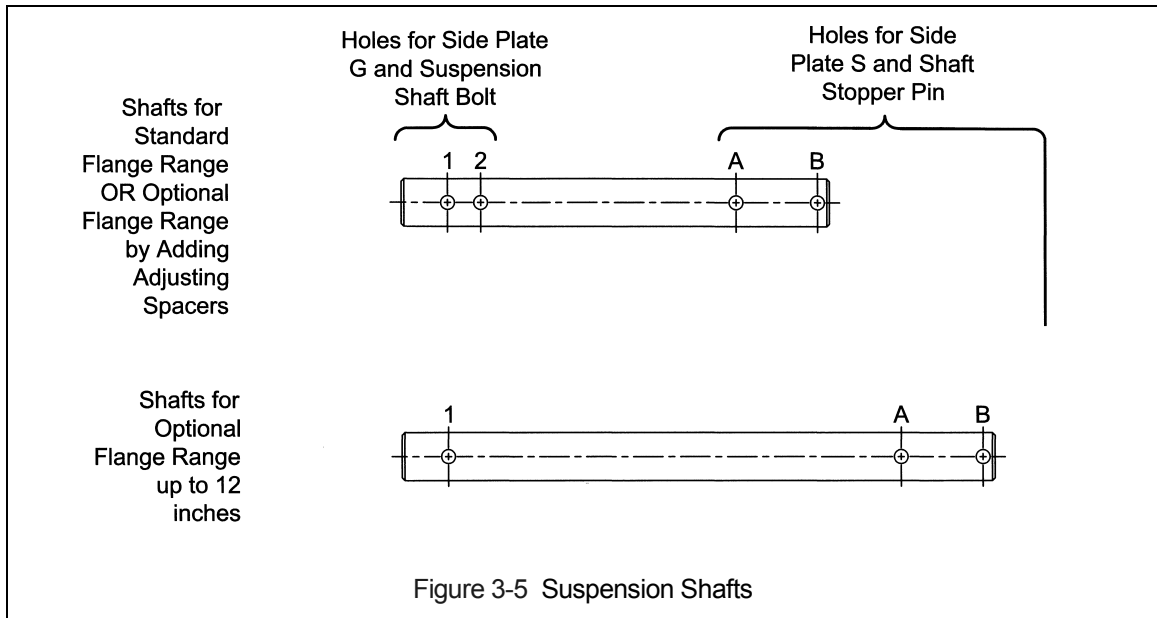

Figure 3-5 Suspension Shafts
- 3) Insert the Suspension Shaft to Side Plate G and attach it with the Suspension Shaft Bolt, Slotted Nut and Split Pin (cotter pin). Refer to Figure 3-5 and insure that correct Suspension Shaft holes are used. Securely bend both branches of the Split Pin after insertion.
- 5) Remove the Shaft Stopper Pin from Hole B and re-install in Hole A (see Figure 3-5). Bend the Split Pin securely. Never use trolley with Shaft Stopper Pin in Hole B. Hole B is ONLY used when installing the trolley on the beam.